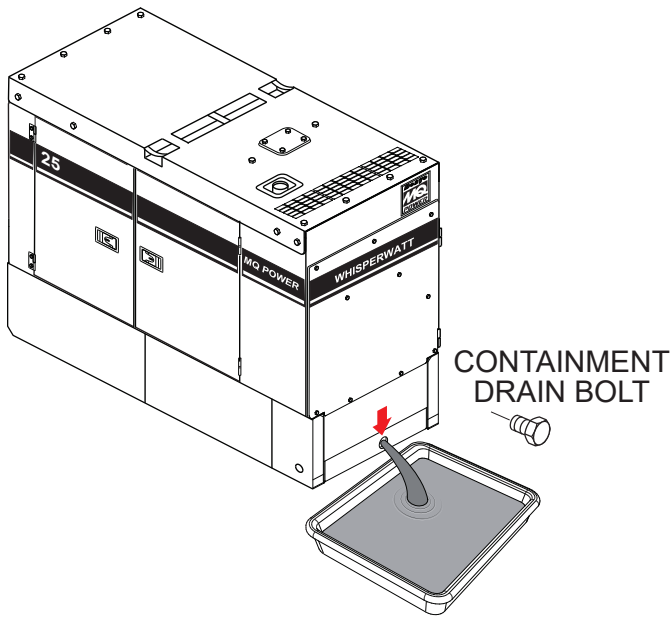

Figure 67. Draining The Containment Tank
2. If the tank becomes full with fluids, remove the **drain bolt** (Figure 67), then allow the fluids to drain into a suitable container.